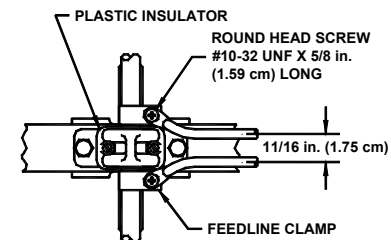

FIGURE 2
3. The feedlines connecting the dipoles "C" and "D" are attached as shown in Figure 2 using the four feedline clamps and the #10-32 x 5/8" long round head screws. The feedlines must have a center to center spacing of 3/4 inch as shown in Figure 2. Attach the feedlines to the top of the feedline clamps. There must be bare metal to metal contact between the feedlines and the dipoles.